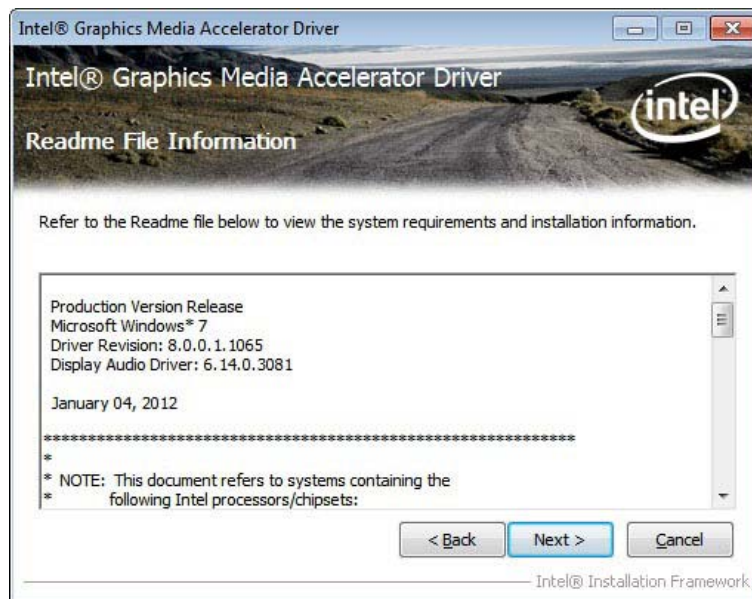

Figure 6-9: Graphics Driver Read Me File
Step 10: The Read Me file in **Figure 6-9** appears.